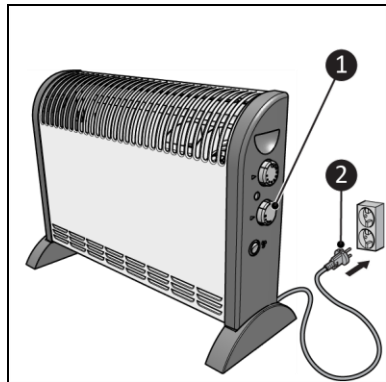

Figure 7
2. Make sure power knob is in the OFF position (Figure 7, pos. 1).
3. Place the power plug (Figure 7, pos. 2) into a wall socket that is easily accessible. Use a wall socket with a minimum power of 2000 Watt.
3. Disconnect the power plug from the power outlet (Figure 7).